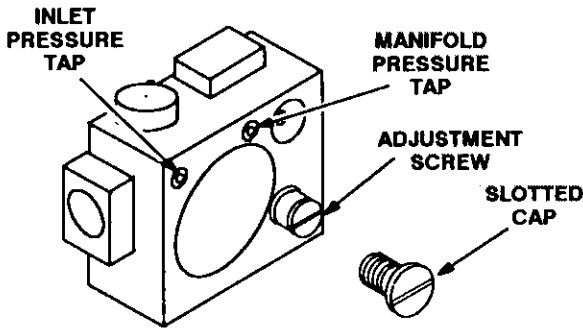

FIGURE 18
- 1- Check gas line pressure with unit firing at maximum rate. A minimum of 4.5 in. w.c. for natural gas or 10.5 in. w.c. for LP/propane gas should be maintained. See figures 18, 19 and 20 for gas pressure adjustment screw location.